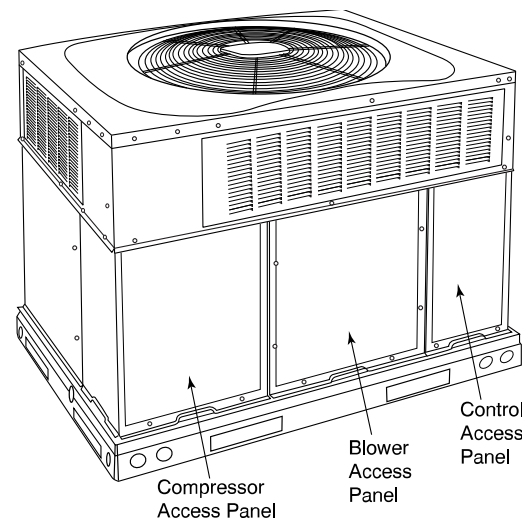

Fig. 39 – Unit Access Panels
An LED (light-emitting diode) indicator is provided on the integrated gas unit controller (IGC) to monitor operation. The IGC is located by removing the control access panel (see Fig. 39). During normal operation, the LED is continuously on (See Table 12 for error codes).
1. Remove control access panel. (see Fig. 39).
Remove blower access panel (see Fig. 39). Limit switch(es) are located on the fan partition.
3. Remove control access panel (See Fig. 39).